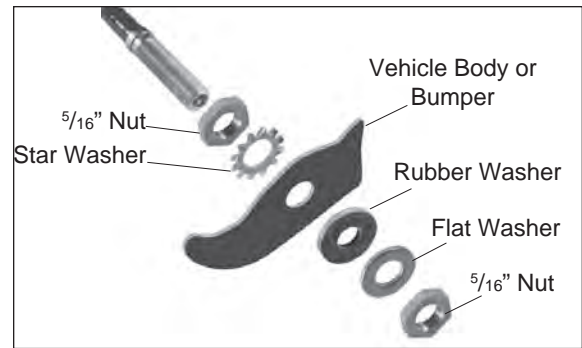

Figure 21
4. Place a $\frac{5}{16}$ " nut (GG) and a star washer (FF) on the air valve. Leave enough of the inflation valve in front of the nut to extend through the hole and have room for the rubber washer (EE), flat washer (DD), and $\frac{5}{16}$ " nut (GG) and cap (CC). There should be enough valve exposed after installation - approximately $\frac{1}{2}$ " - to easily apply a pressure gauge or an air chuck (Figure 21).
5. Push the inflation valve through the hole and use the rubber washer (EE), flat washer (DD), and another $\frac{5}{16}$ " nut (GG) to secure it in place. Tighten the nuts to secure the assembly in place (Figure 21).
6. Route the air line along the frame to the air fitting on the air spring. Keep at least 6" of clearance between the air line and heat sources, such as the exhaust pipes, muffler, or catalytic converter. Avoid sharp bends and edges. Use the plastic tie straps (BB) to secure the air line to fixed, non-moving points along the chassis. Be sure that the tie straps are tight, but do not pinch the air line. Leave at least 2" of slack to allow for any movement that might pull on the air line.